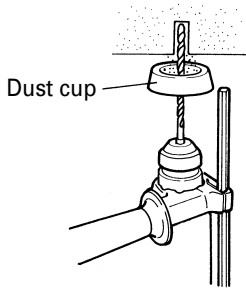
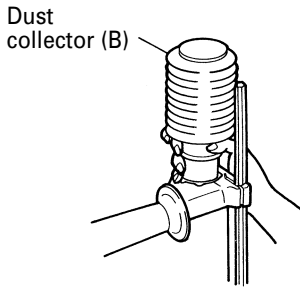

Fig. 9
Fig. 10
4. Installation of dust cup or dust collector (B) (Optional accessories) (Fig. 9, Fig. 10)
Use the dust cup by attaching to the drill bit as shown in Fig. 9.
- Installing dust collector (B)
When using dust collector (B), insert dust collector (B) from the tip of the bit by aligning it to the groove on the grip. (Fig. 10)